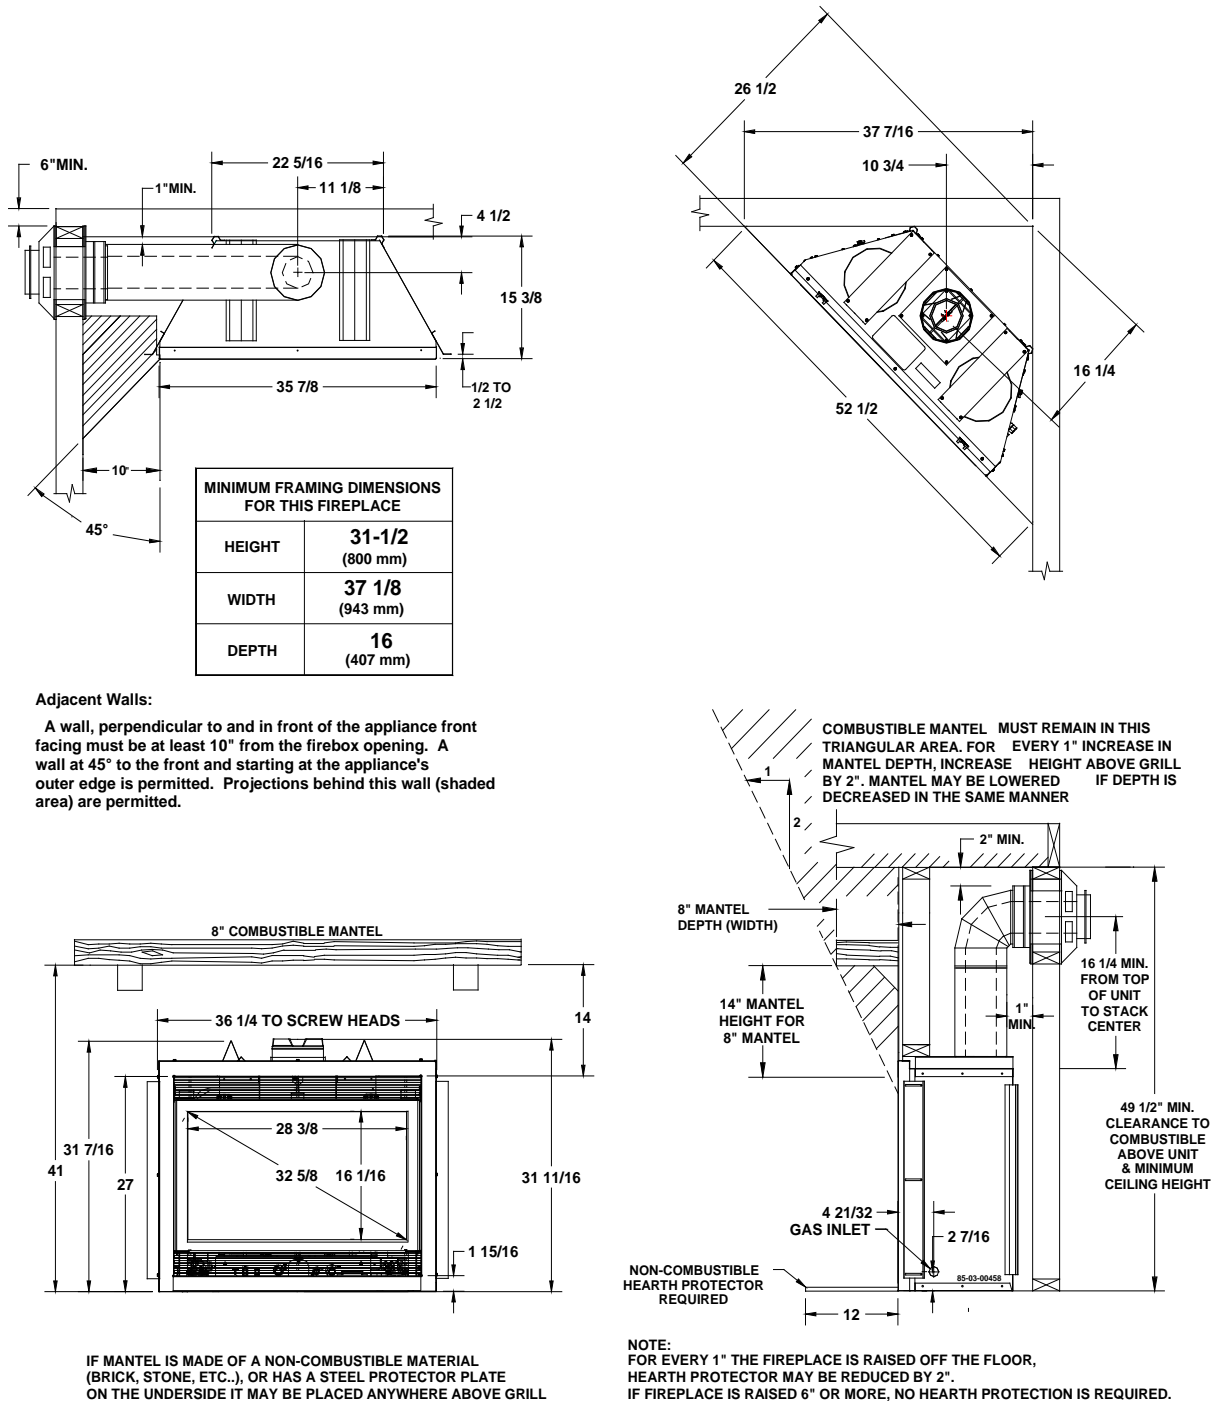

Figure 4: Specifications & Clearances
2. Measure from the top of the fireplace up minimum (see Figure 4: Specifications & Clearances, PG. 164) and mark wall directly at the center of where the vent pipe will penetrate the wall.